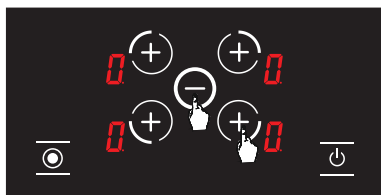

Figure 23
2. Press front right hob selection key () and minus key () simultaneously (see Fig. 23), you shall hear a short warning signal at this time. Then, remove your fingers from the stove control panel.